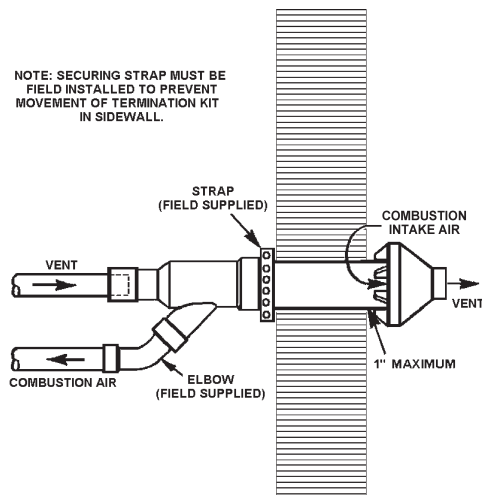

FIGURE 26.
7. Cement heater combustion-air and vent pipes to concentric vent termination assembly. See Figure 26 for proper pipe attachment.